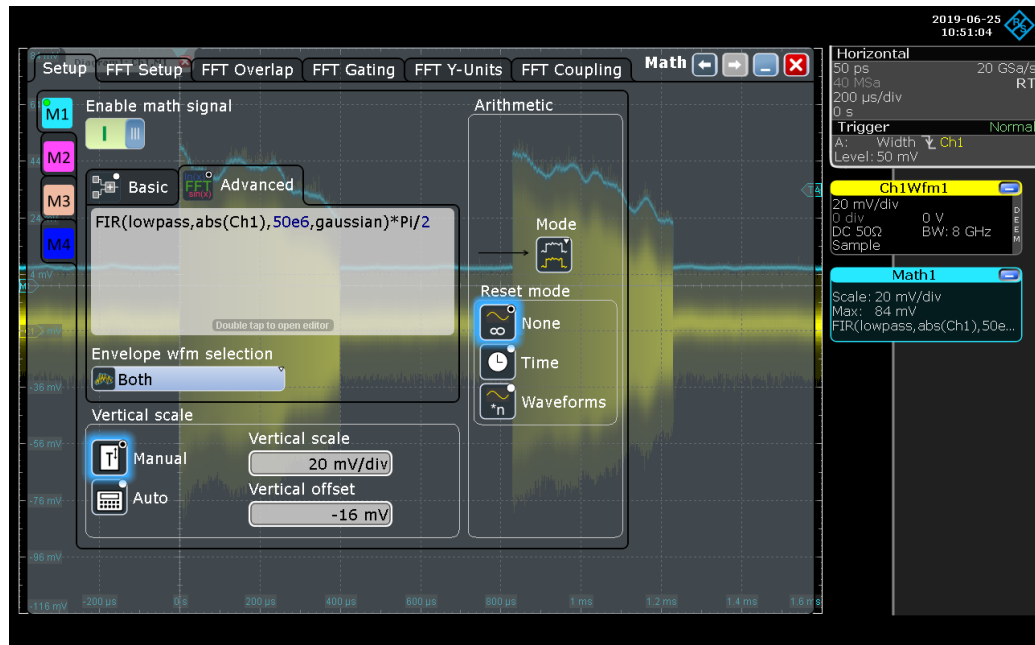

Fig. 2-7: Settings for the pulse envelope measurement
- Select the *Advanced* tab and enter the in Fig. 2-7 shown formula.
- Enable the Math signal as shown in Fig. 2-7. The result is shown in Fig. 2-9 :